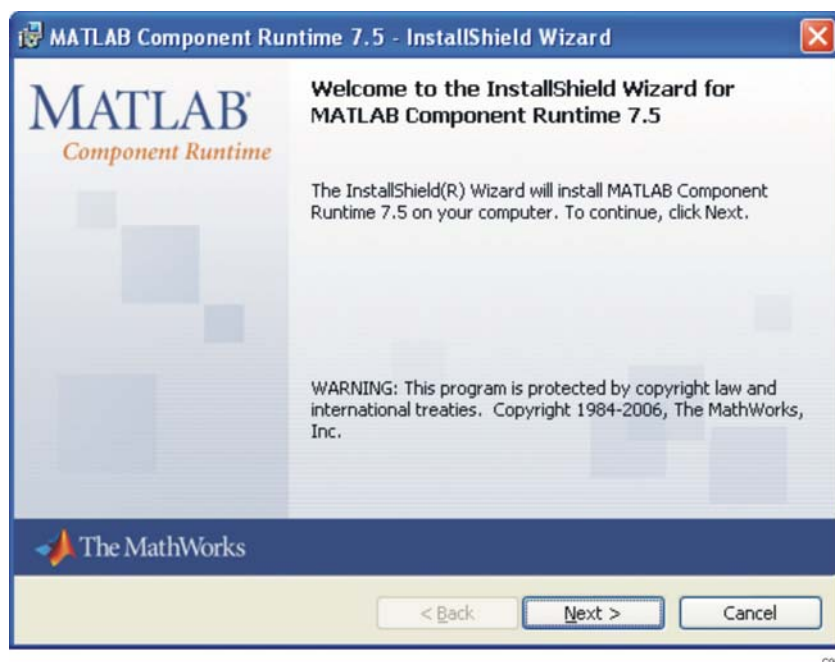

Figure 7. MATLAB Welcome Screen
2. When the MATLAB Component Runtime 7.5 screen (Figure 7) displays, click Next.